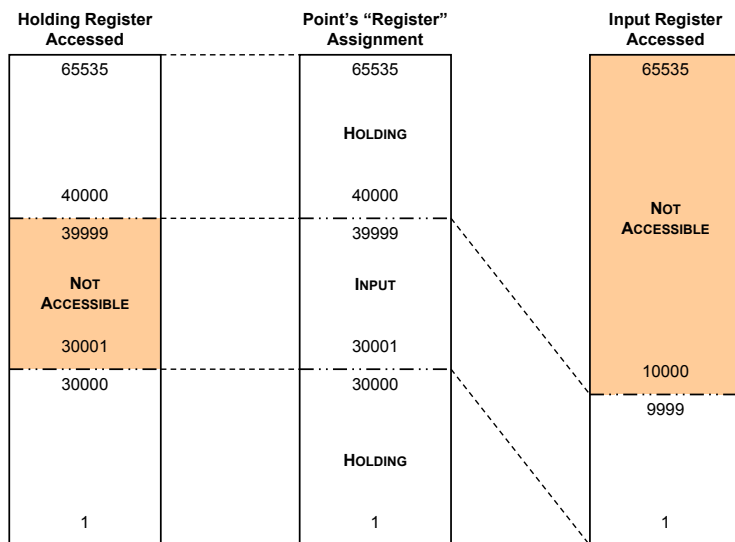

Figure 29: "Register" Assignment and Resulting Register Type Accessed
- The default register types that the Modbus master driver attempts to access (read and write) are "holding" (4X) registers. However, "input" (3X) registers will be accessed whenever a point's assigned "register" index is in the range of 30001..39999. Refer to Figure 29 for a graphical explanation of which type of register is accessed (i.e. which function code is used) based on the Modbus master "register" index assigned to a point. Simply put, if the assigned "register" index is in the range of 30001..39999, a